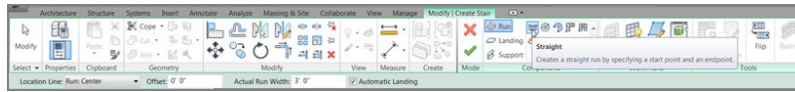

FIGURE 10.2: The Modify | Create Stair tab, Sketch Mode
You're put into Sketch Mode for the stairs you're about to design, as shown in Figure 10.2.
5. On the Components panel of the Modify | Create Stair tab, make sure the Run button and the Straight button are checked (see Figure 10.2).